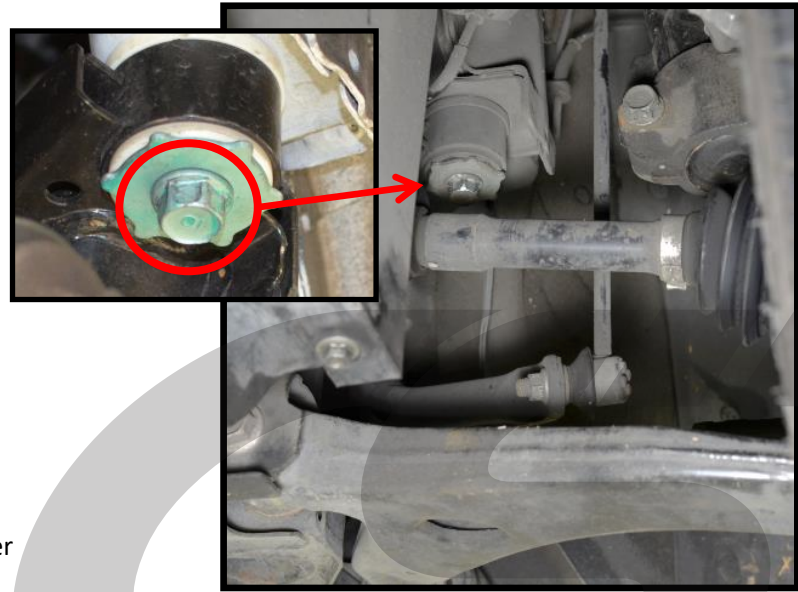

Figure 2e
- f) Remove the two (2) 17mm bolts (one shown by the red circle in Figure 2e) using a ratcheting wrench, 12" extension and 17mm socket. At this point, the sub frame should drop down.